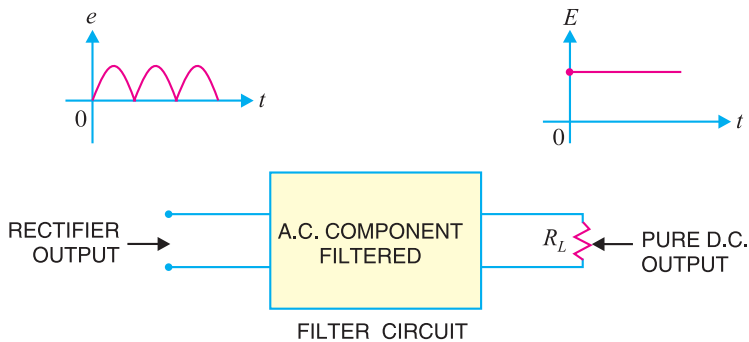

Fig. 6.40
Obviously, a filter circuit should be installed between the rectifier and the load as shown in Fig. 6.40. A filter circuit is generally a combination of inductors (L) and capacitors (C). The filtering action of L and C depends upon the basic electrical principles. A capacitor passes a.c. readily but does not pass d.c. at all. On the other hand, an inductor opposes a.c. but allows d.c. to pass through it. It then becomes clear that suitable network of L and C can effectively remove the a.c. component, allowing the d.c. component to reach the load.